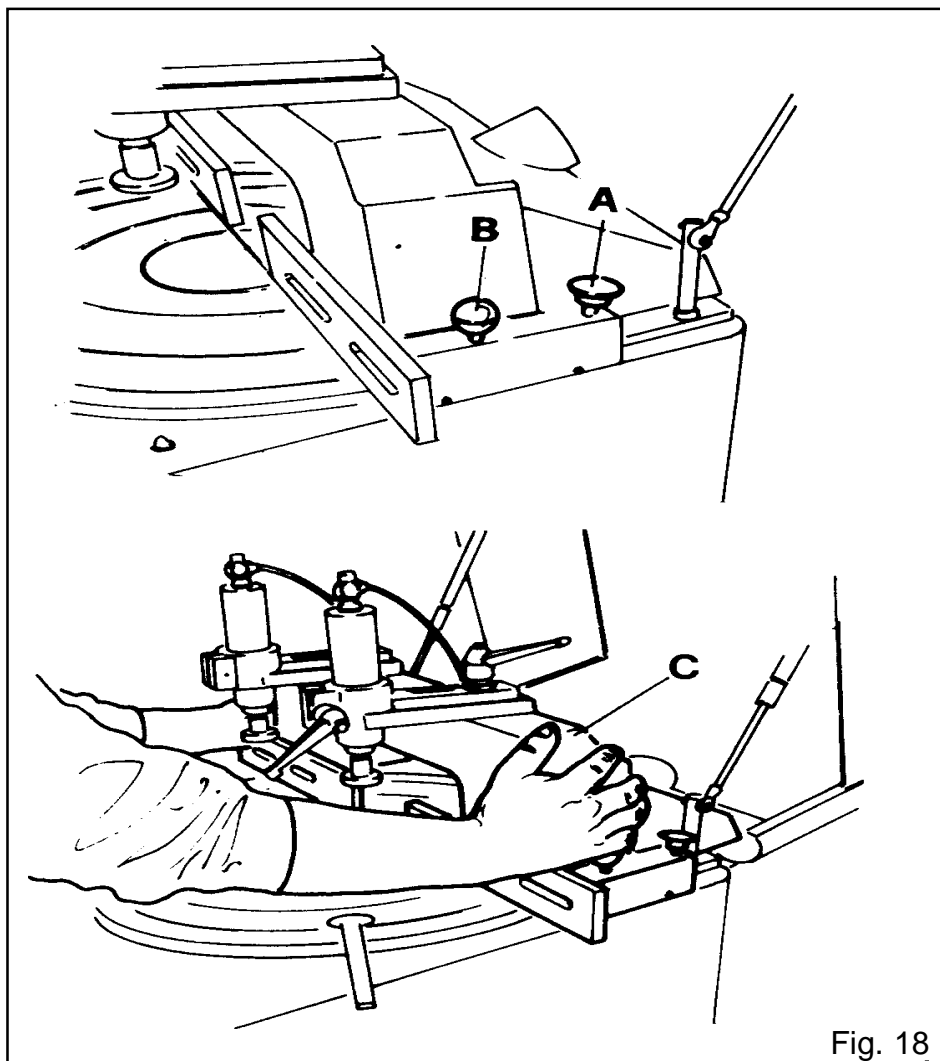

Fig. 18
- Turn knob B (Fig. 18) to release the cutting fence.
- Lift the scraping cutter A (Fig. 18) taking it off its seat on the machine table.
- Take with both hands the cutting fence C (Fig. 18) pushing it to the external part of the machine until the expected position.
- Block knob B (Fig. 18) and carry out the cuts.